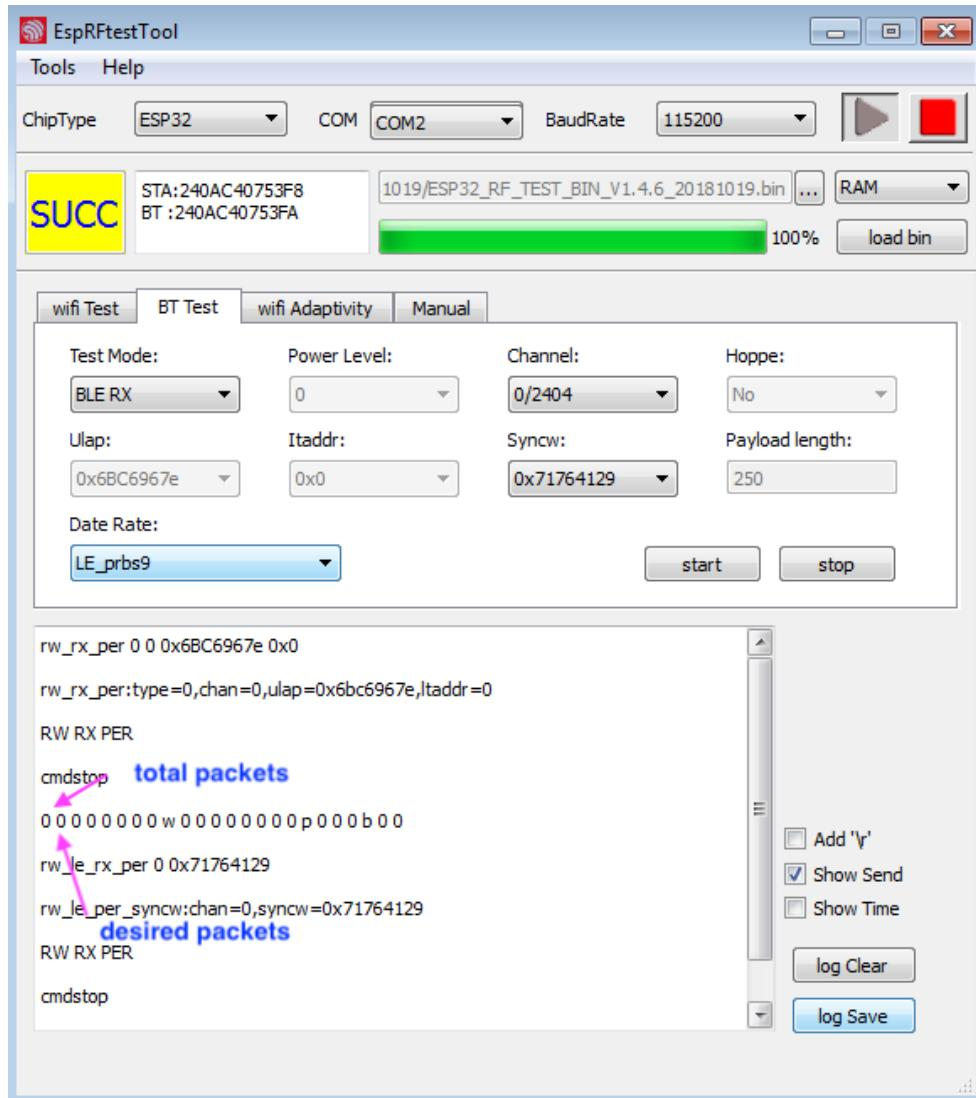

Figure 5-4. Log Output of the BT RX Test
- (1) To test the RX performance of LE channel 0, choose **BLE RX** for **Test Mode**, **0/2404** for **Channel**, and **LE_prbs9** for **Data Rate**. Please refer to Figure 5-4.
- (2) When RX is done, click on **stop** to check the detailed information of the received packets. The format of the number of received packets is: 0 0 0 0 0 0 0 w 0 0 0 0 0 0 0 p 0 0 0 b 0 0